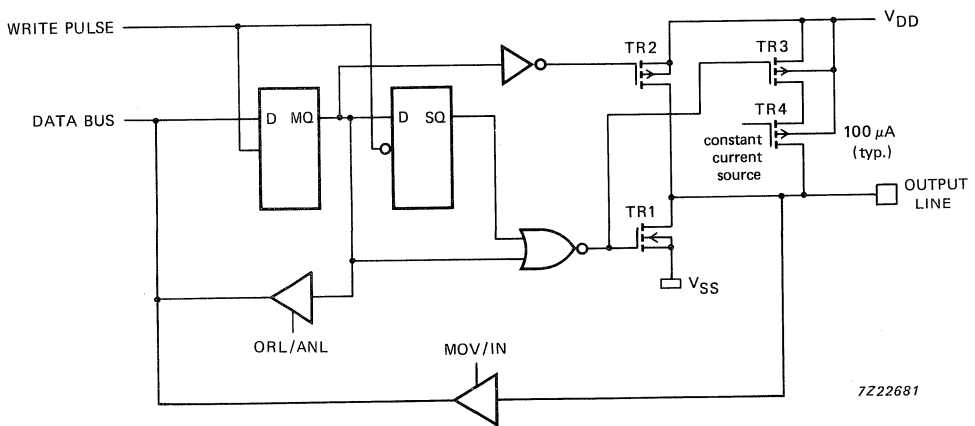

Fig. 13 Push-pull output.
3. PUSH-PULL OUTPUT: the outputs can sink or source  $1,6\ \text{mA}$  (min.) at  $V_{DD} = 5\ \text{V}$ . These pins may not be used as inputs (Fig. 13). The contents of the port latch may be read using the  $IN\ A,pp$  instruction.